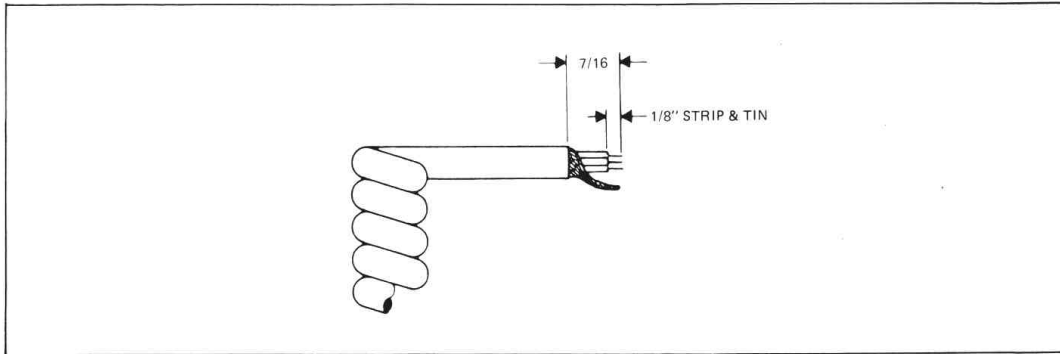

Fig. 2. Microphone Cable Preparation
1. Cut leads so that they extend $7/16$ " beyond the plastic insulating jacket of the microphone cable (see Fig. 2.)